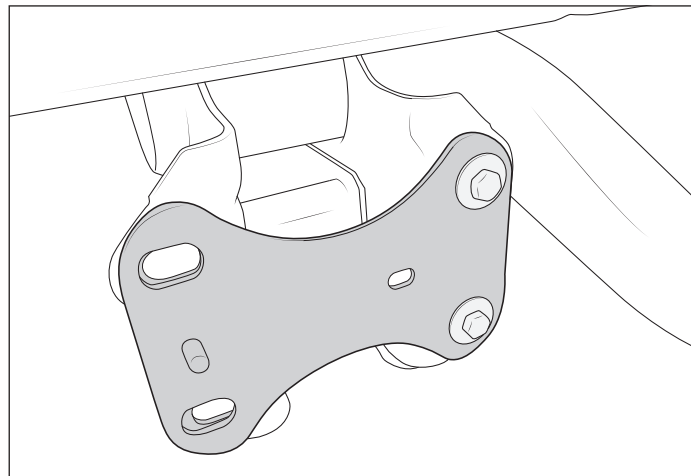

Figure 4
7. With the bumper removed, remove and discard the two frame rail end plates shown below (fig. 4).